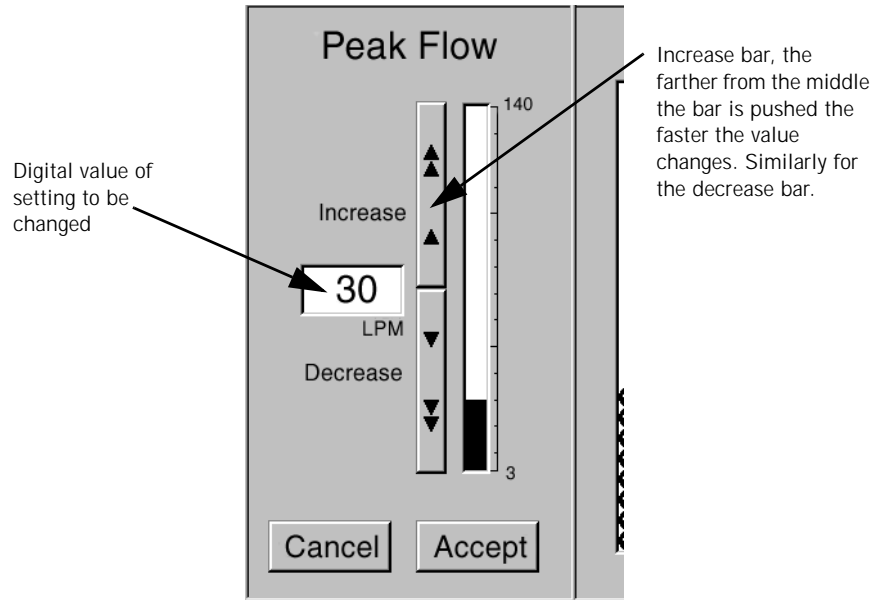

Figure 8-1: Entering Settings and Alarm Parameters
1. Select the parameter to be changed by pressing the associated button. The screen shown in Figure 8-1 appears.